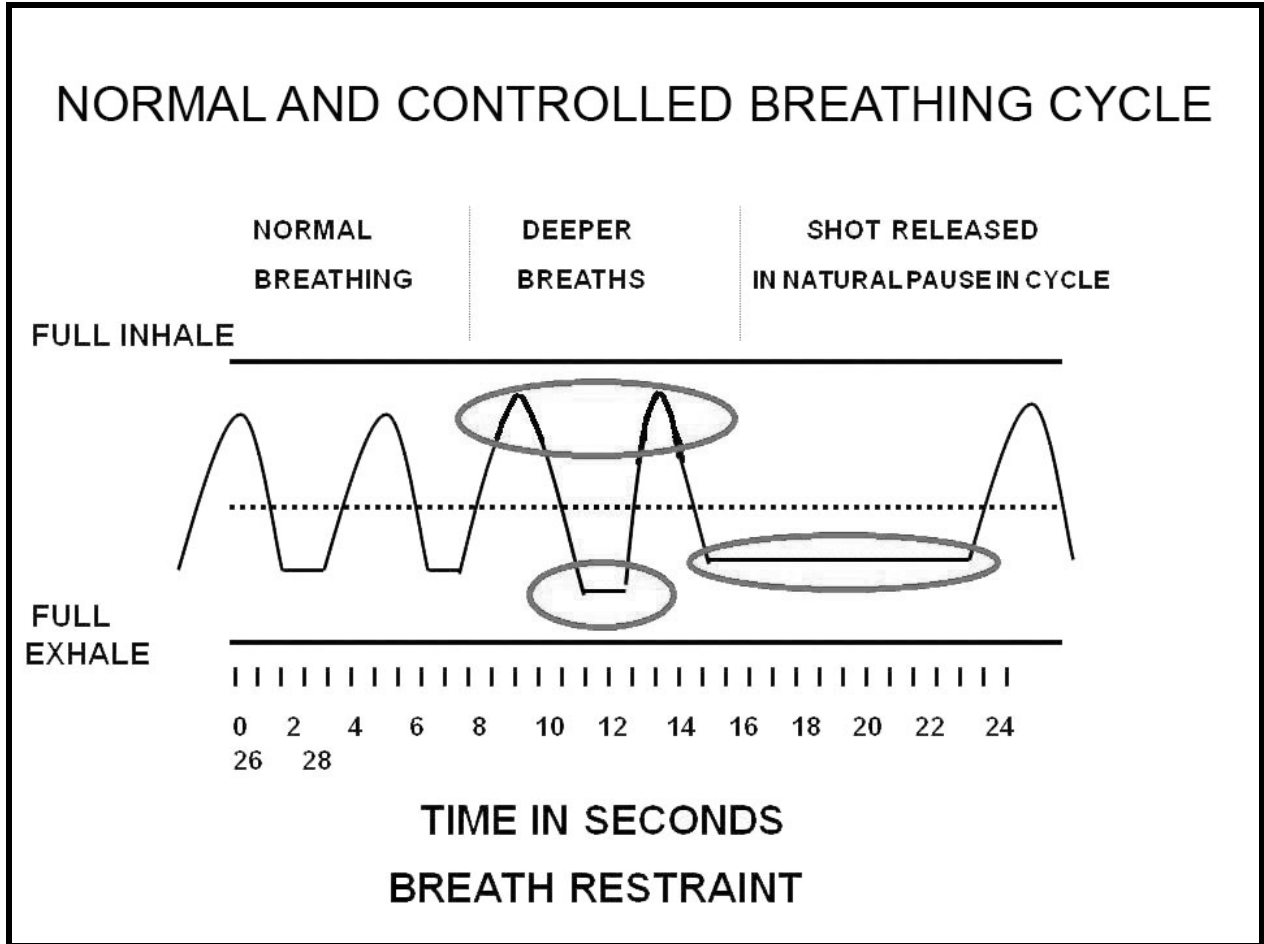

Figure 128. Normal and controlled breathing cycle
- c. Figure 128 has been in circulation for over forty years. Unfortunately, some people are misinterpreting it and are reverting to "holding your breath" which it is incorrect.